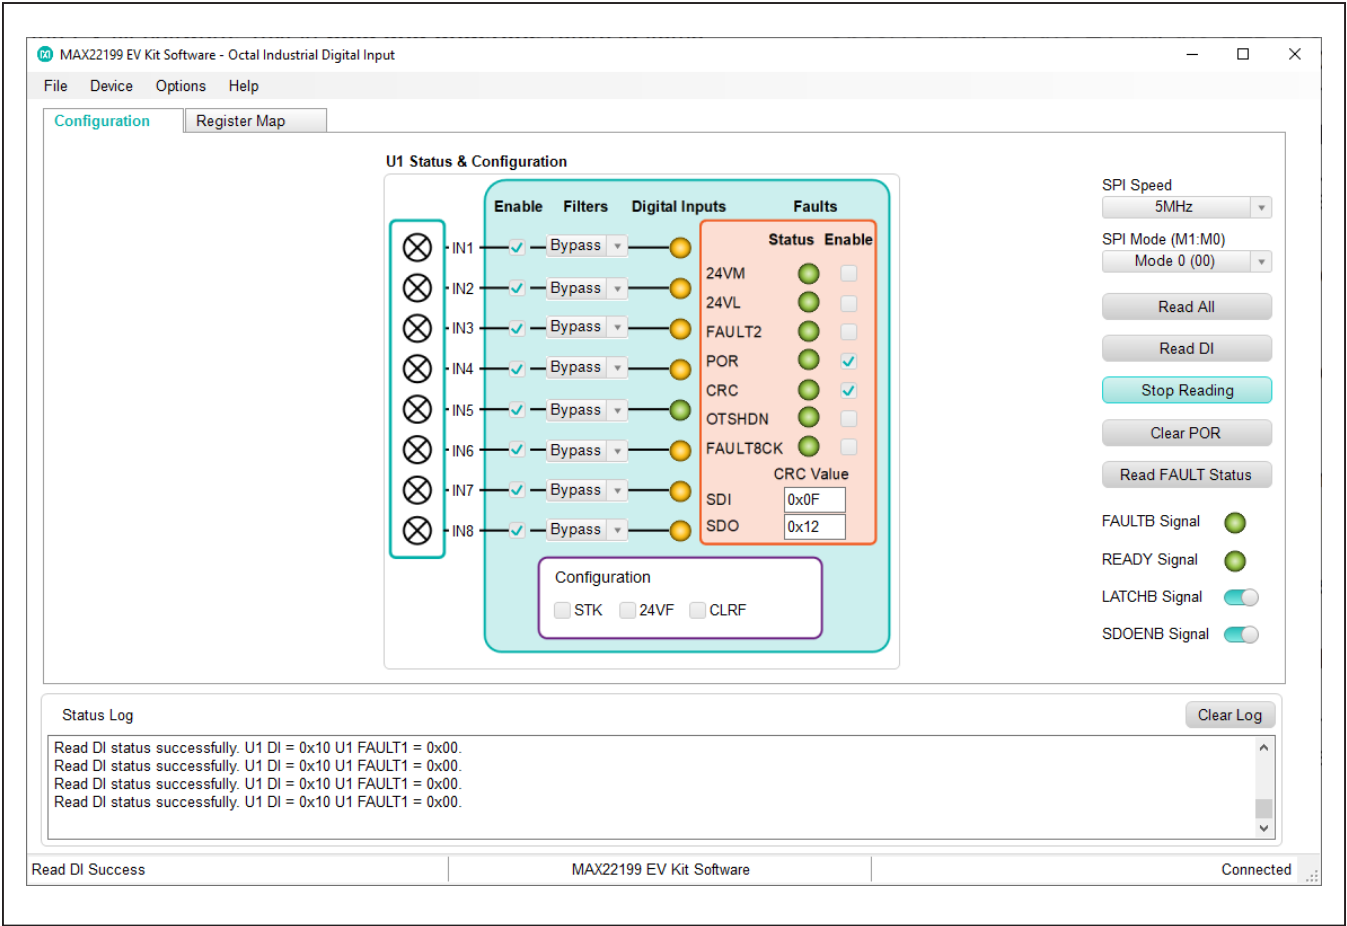

Figure 3. MAX22199 EV Kit Software—Read DI Continuously
- 13) Click **Read DI Continuously** button. The EV kit software reads the U1 registers continuously. Connect the 24V DC voltage to one of the input test points, e.g., test point IN5. The corresponding **Digital Inputs** status light **IN5** is changed to green from yellow to indicate U1 channel IN5 is high as shown in Figure 3.